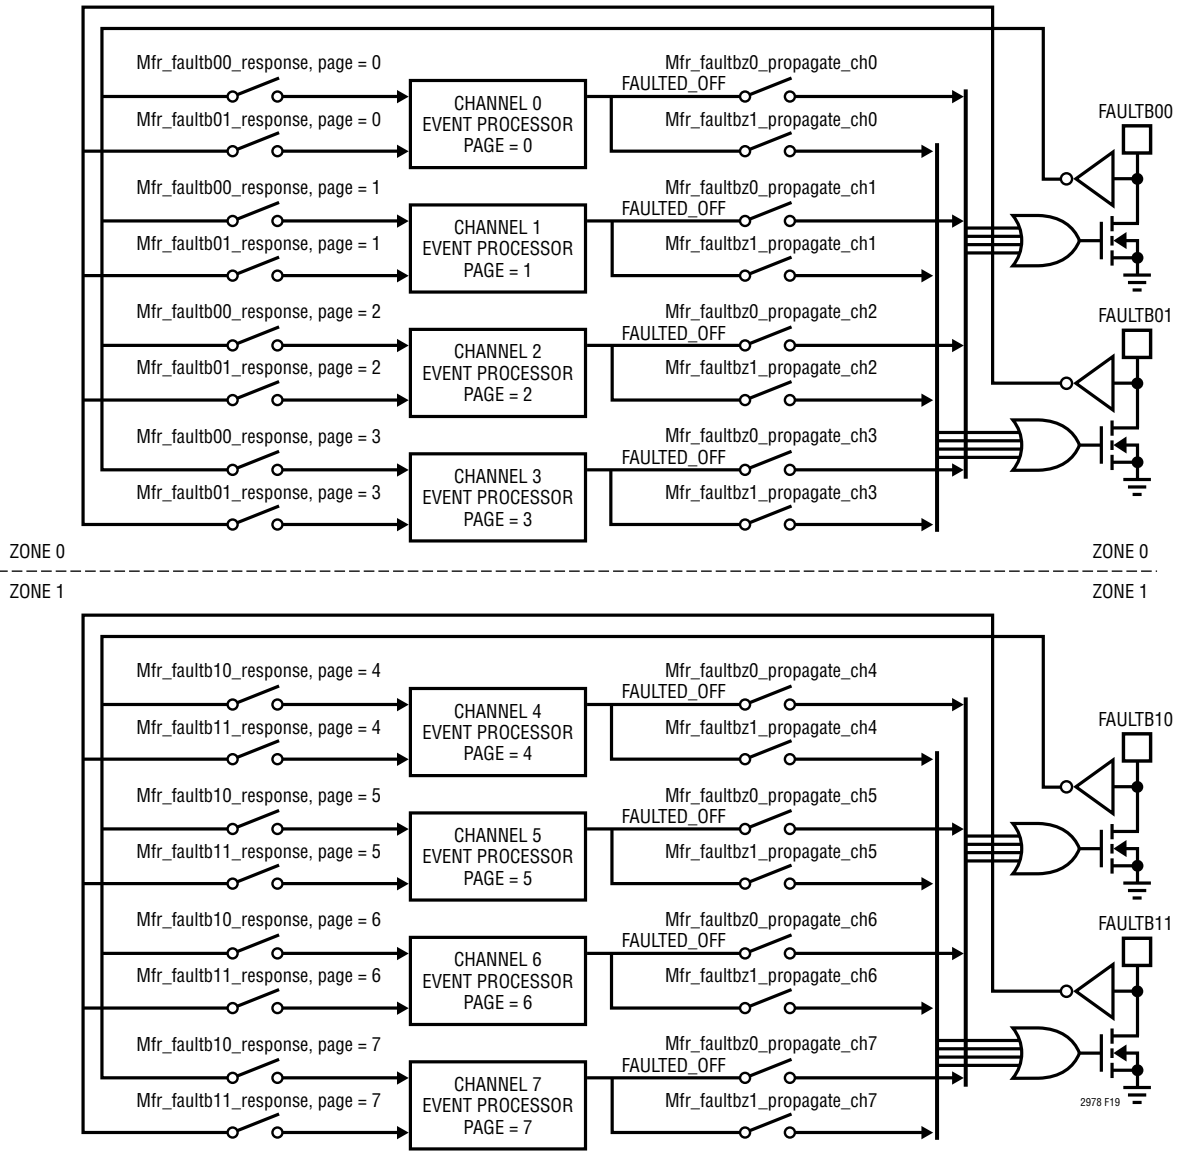

Figure 19. Channel Fault Management Block Diagram
Multichannel fault management is handled using the bidirectional FAULTBzn pins. The “z” designates the fault zone which is either 0 or 1. There are two fault zones in the LTC2978. Each zone contains 4-channels. Figure 19 illustrates the connections between channels and the FAULTBzn pins.
- PWRGD reflects the status of the outputs that are mapped to it by the MFR_PWRGD_EN command. Figure 19 shows all the PWRGD pins connected together, but any combination may be used. Note that the latency of the PWRGD pin response may be in the range of 30ms to 185ms depending on ADC MUX settings. See Electrical Characteristics Table Note 6.